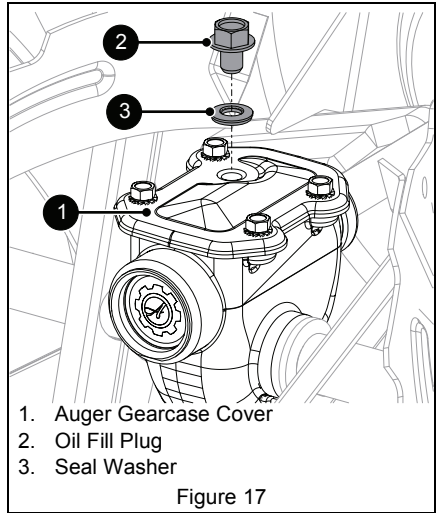

Figure 17
2. Remove oil fill plug and seal washer. See Figure 17.